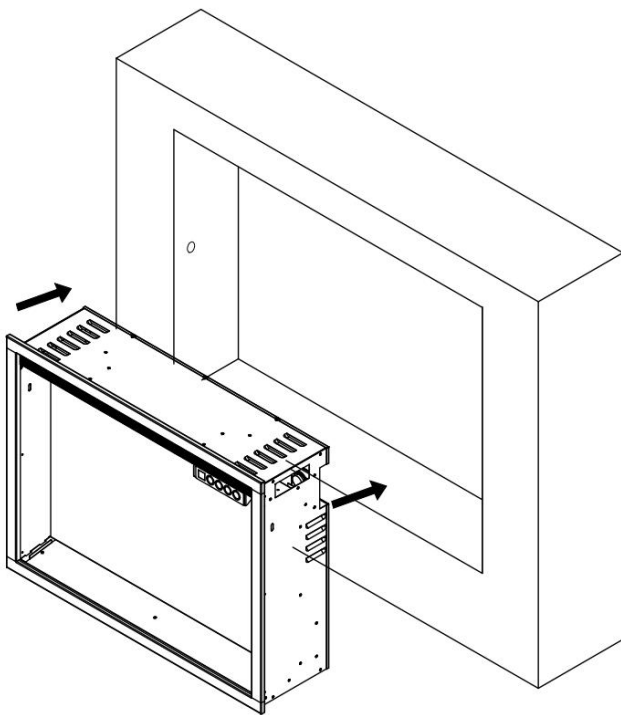

Fig. 8
- Have two people lift the fireplace up and Insert it into the opening hole. (Fig.8)